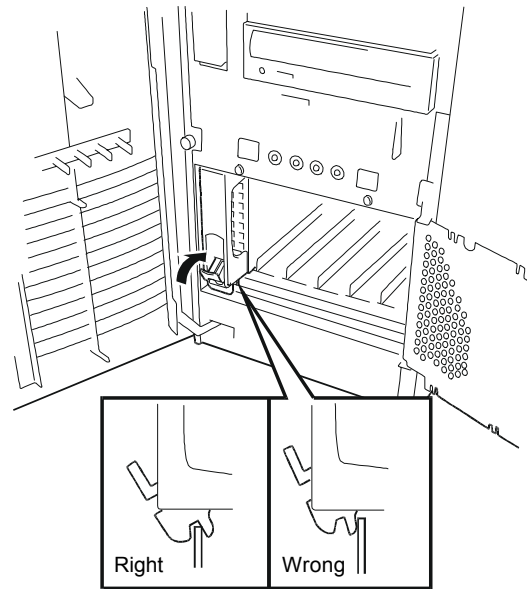

Figure 4-18. Locking the Disk Carrier
- Close the disk carrier locking tab ensuring it is secured as shown in Figure 4-18.